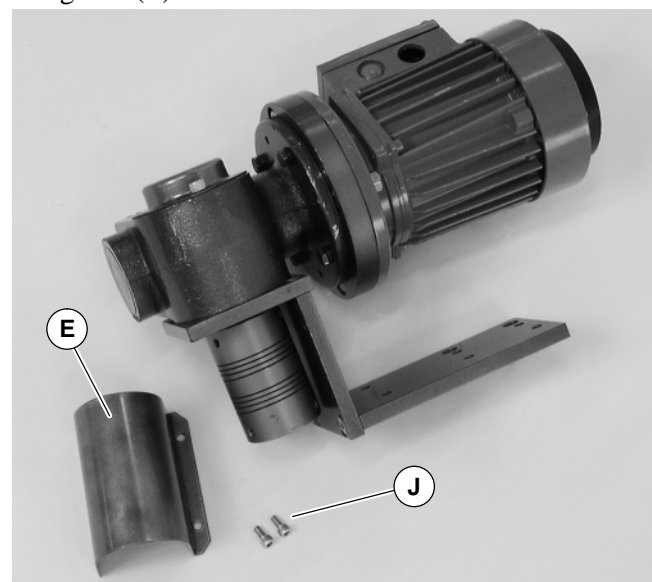

Figure 5
3. Remove screws (J of Figure 5) and coupling guard (E).